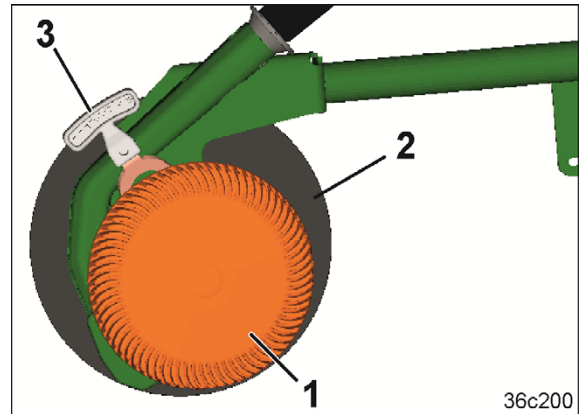

Fig. 53
The shallow seeding disc (Fig. 53/1) and the cleaning disc (see below) are used for
- cleaning the rear side of the steel disc (Fig. 53/2).
For limiting the seed placement depth, the coulter discs can be adjusted in 3 positions. The handle (Fig. 53/3) is used for actuation.
The shallow seeding disc (Fig. 53/1) enables shallow seeding even on very light soils with increased coulter pressure.